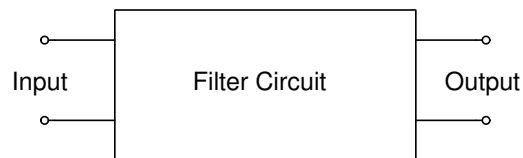

Figure 1: Block diagram of the filter circuit.
**Introduction:** In this lab, you will design, simulate, build, and test a low-pass filter. The block diagram of the filter is shown in Figure 1.